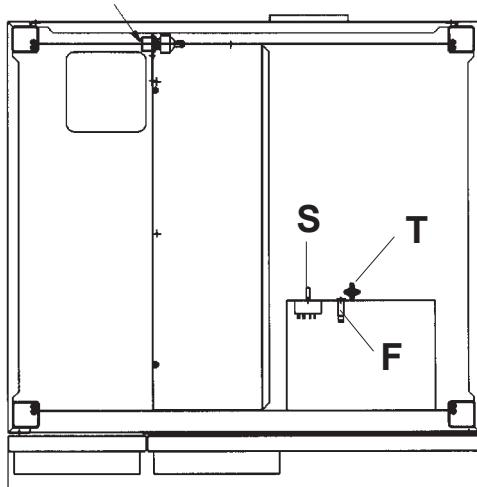

Fig. 3
### 7.1 Safety thermostat for heated chamber (fig. 3)
- The appliance is equipped with one fuse "F" (fig. 3) (5AF, rapid action with an interruption power level of 35A) protecting
- Energy regulator is damaged or must be adjusted, by turning the spindle "S" (fig. 3).